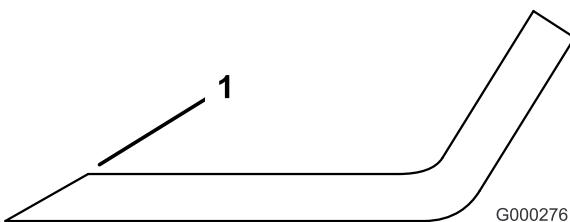

Figure 51
1. Use a file to sharpen the cutting edge at both ends of the blade (Figure 51). Maintain the original angle. The blade retains its balance if the same amount of material is removed from both cutting edges.